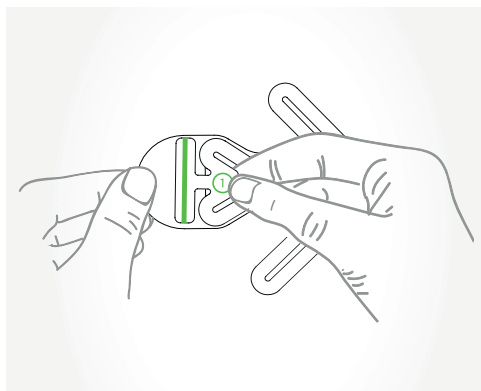

Figure 13: How to hold point 1 when applying the DeltaScan Patch.
- Hold point 1 of the DeltaScan Patch between thumb and index finger. Remove the liner from the back of point 1, as indicated in Figure 13.